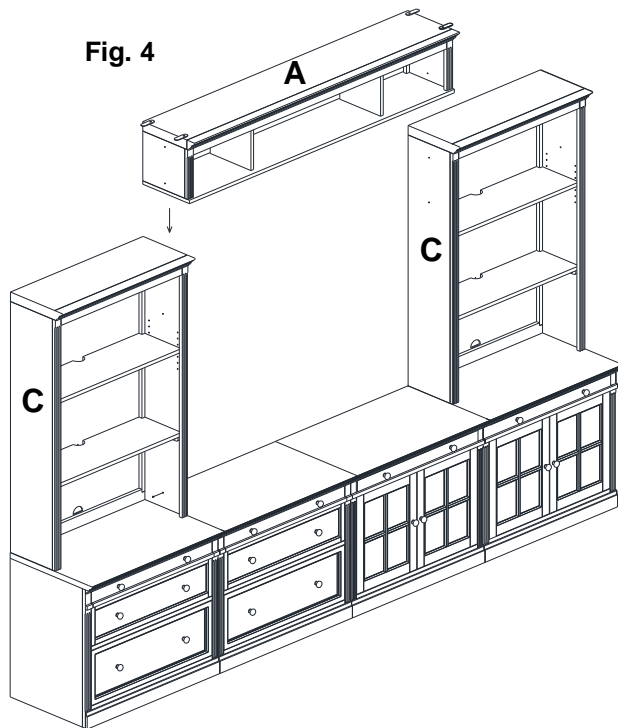

Fig. 4
- Place the Quadruple Bridge (A) in between the Double Hutches (C) by laying the mending plates pre-attached on the Quadruple Bridge (A) onto the Top of the Hutches Items as shown in **fig. 4**.